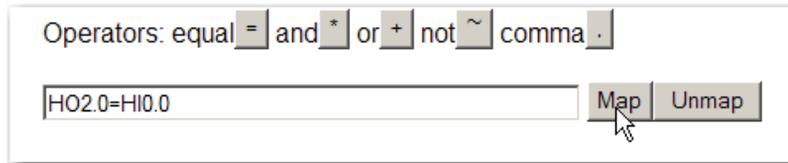

FIG. 269 MAPPING SOURCE TO DESTINATION
- Click on the Select button. The Source (Digital Card Input 1) appears in the Mapping field. (See Fig. 269)